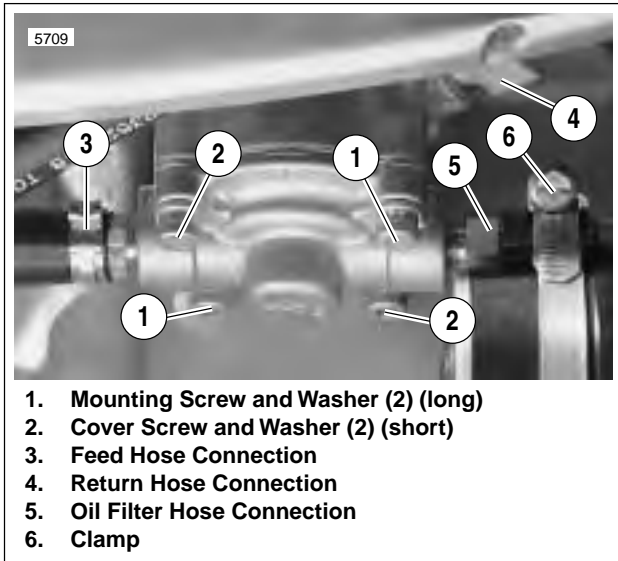

Figure 3-51. Oil Pump Hardware
2. See Figure 3-51. Disconnect feed hose (3).
3. Remove clamp (6) from filter hose. Detach oil filter hose connection (5).
- See Figure 3-51. Attach return hose connection (4).
- Secure pump to crankcase with mounting screws (1) and washers. Tighten to 125-150 **in-lbs** (14.1-16.9 Nm).
- Attach feed hose (3) and oil filter hose connection (5).
- Attach clamp (6) and canister to hose.